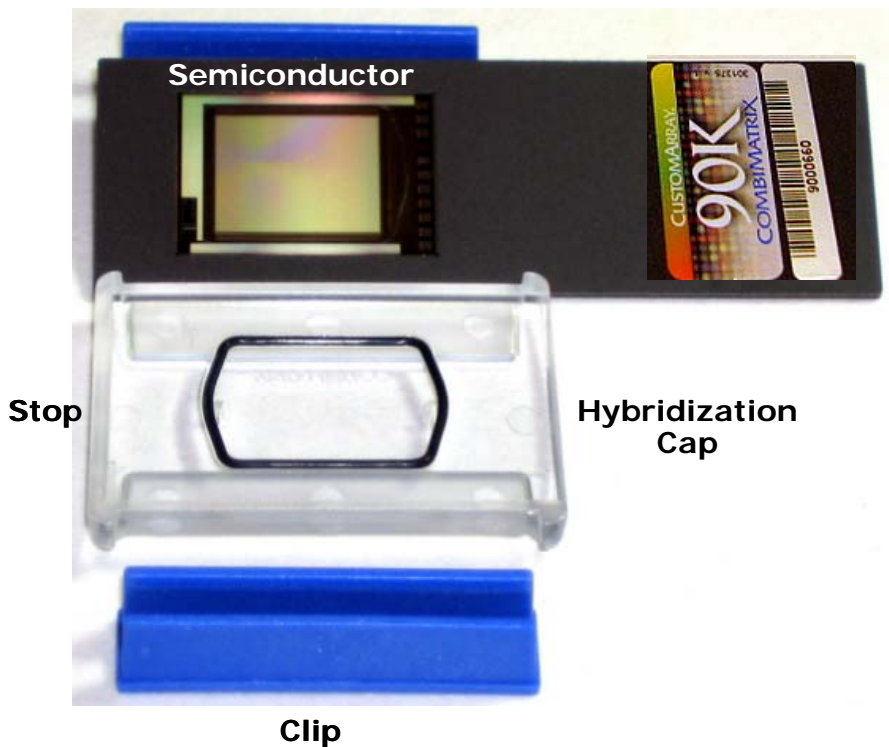

Figure 1. CustomArray™ 90K microarray, Hybridization Cap and Clips.
2. Secure the Hybridization Cap in place with the Clips provided (see Fig. 1 and 2). The Clips can be attached only if the Hybridization Cap is positioned with the top edge of the slide at the stop of the Cap.